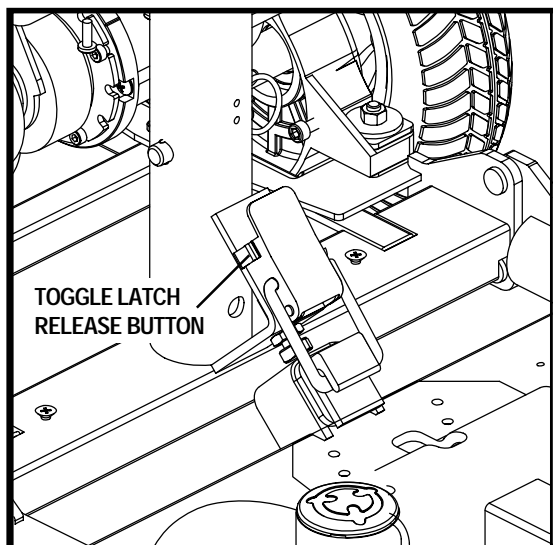

Figure 11. Toggle Latch Closed
6. Push in the toggle latch release button while pulling forward on the toggle latch. See figure 11.
4. Secure the toggle latch to the locked position. See figure 11.